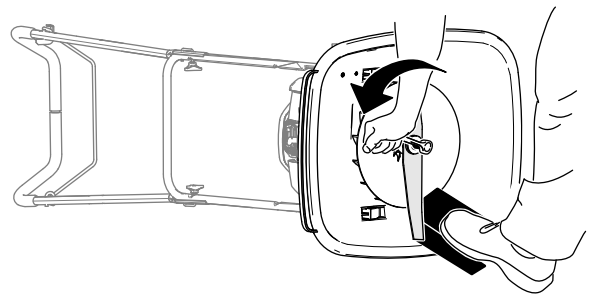

Figure 43
4. Use a block of wood to hold the blade steady (Figure 43).